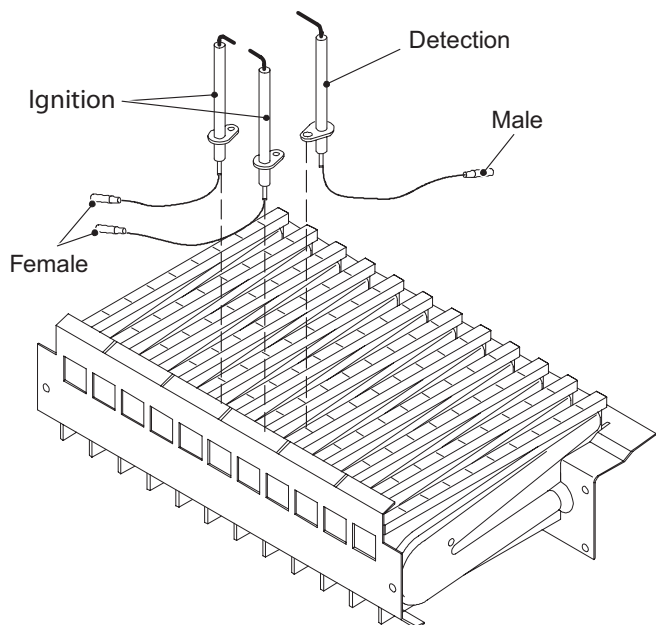

Figure 18.1
- Refer to Figure 18.1 in order to recognise the electrodes and to correctly connect the wiring.